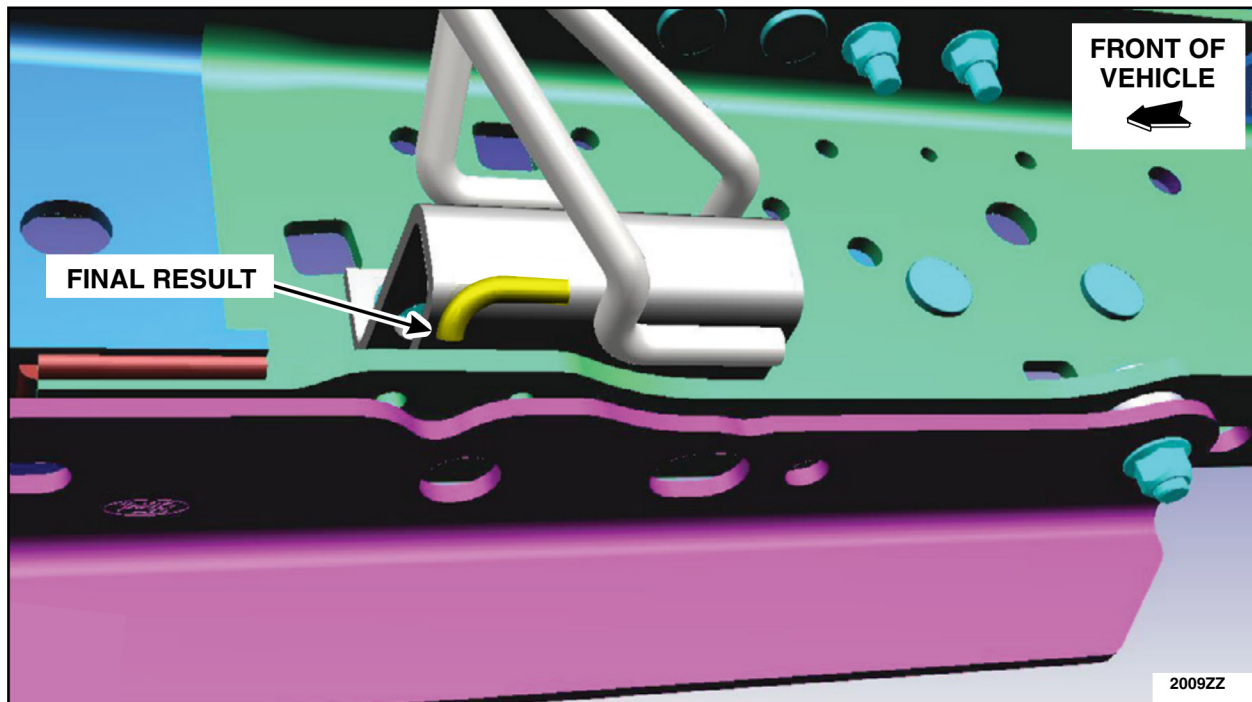

FIGURE 45
3. Figure 45 shows the final result once the exhaust hanger portion is removed.